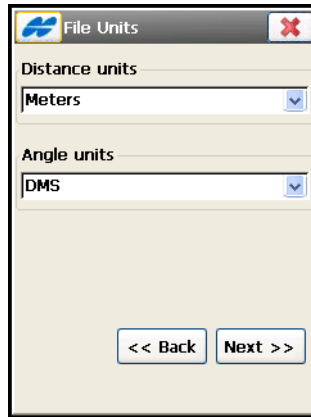

Figure 5-17. File Units
- *Select File Units* – this option is available for all data types and formats containing distance/angular values. When this checkbox is selected, the **Next** button opens the **File Units** screen that allows selecting units for the data imported (Figure 5-17 on page 5-15). Depending on the data and format selected, you can set only distance, or distance and angle units if available.
- *Select File Units* – when this checkbox is selected, the **Next** button opens a dialog to select a type of distance units for the points imported (see Figure 5-17 on page 5-15). Depending on the Format, you can select from *Defined in the File*, *Meters*, *IFeet*, *US Feet*, *IFeet and Inches*, *US Feet and Inches*.
- *Select File Units* – if the box is check marked, the **Next** button opens a screen to select a type of distance units for the points imported from *Meters*, *IFeet*, *US Feet*, *IFeet and Inches*, *US Feet and Inches* (see Figure 5-17 on page 5-15).